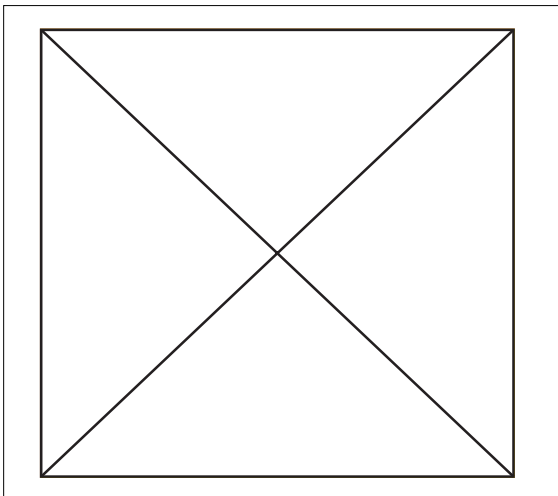

Figure 5. Off Isolation
- Off Isolation = $20\log_{10} V_{COM} / V_{NO}$. See Figure 5.